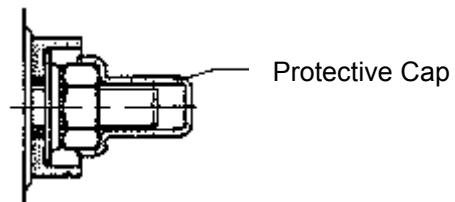

Figure 31 Terminal W Insulator,
14. Install protective cap onto terminal W. (Figure 31)